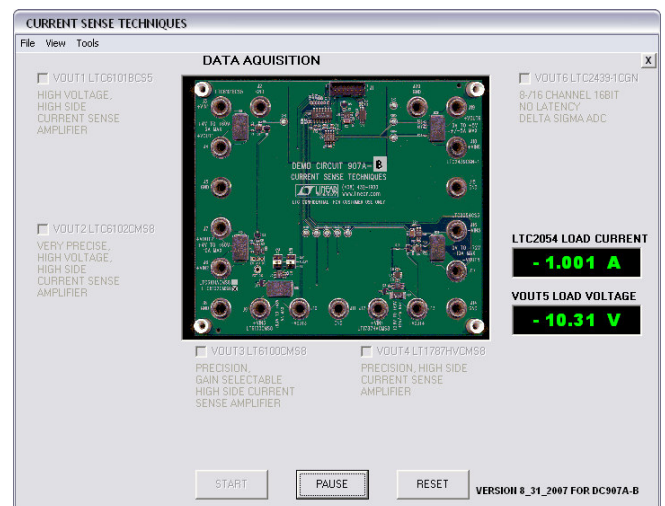

Figure 12. LTC2054 IsenseB.exe display (Current and Voltage at -VOUT5)
4. Mouse-click a check in the VOUT4 LTC2054CS5 enable box and then mouse-click the START box to begin data-acquisition. The IsenseB.exe presentation will then show, as in Figure 12, a continuously updated current and voltage as furnished to the load connections. To suspend updating, mouse-click the PAUSE box. The RESET box returns the program to the initial setup state. A red readout represents an out-of-range result or condition that may be beyond safe limits. A yellow readout is acceptable, but indicates being near a limit. Green readouts are well within nominal conditions.